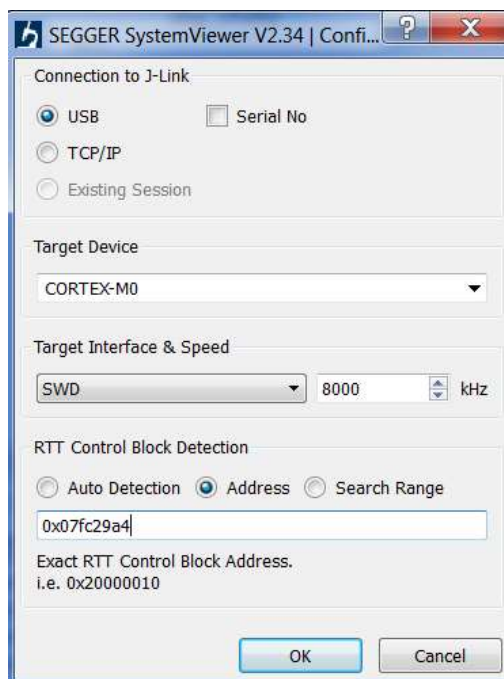

Figure 96: Configuring the SEGGER System Viewer
2. Configure the SEGGER System View as shown in Figure 96.